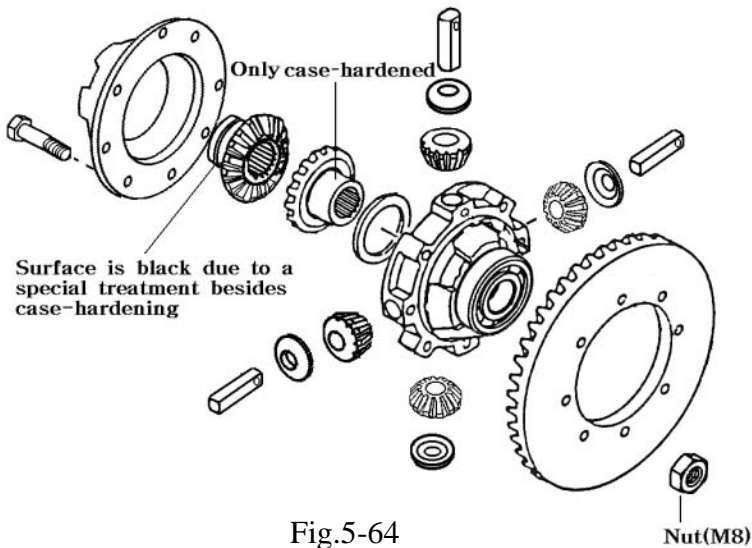

Fig.5-64
- As shown in Fig5-64,there are two kinds of differential side gears.Although are case hardened,the one installed on the side of the diff-lock is treated further and colored black. Take care not to mix them when assembling.